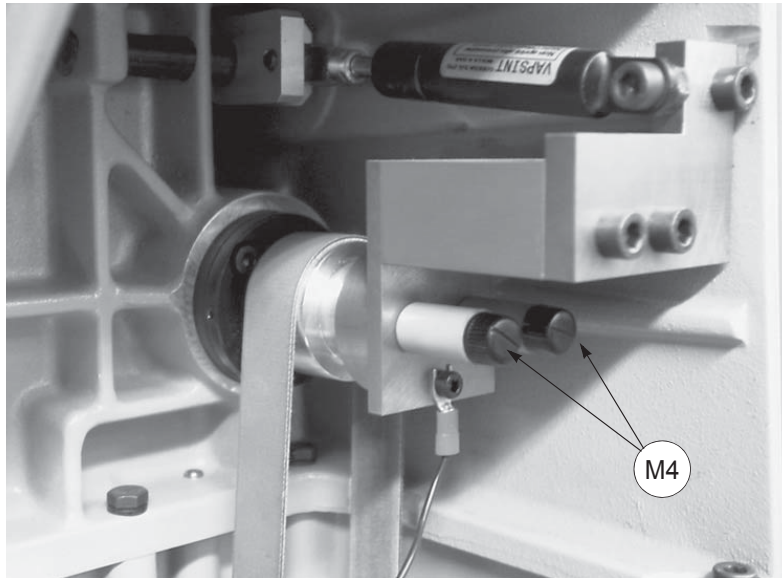

Fig. 153
3) install the (Z14) template (fig. 153).
- 2) unscrew the two brush caps (M4) (fig. 153), remove and fit two new brushes.